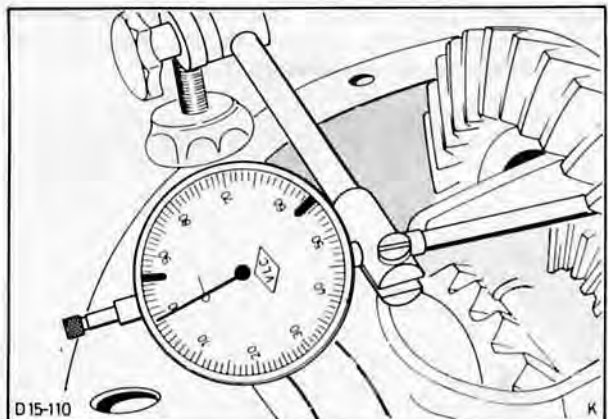

Fig. 89. Place dial indicator plunger on inner crown wheel boss
41. Now position dial indicator with plunger inside on crown wheel boss, Fig. 89. Set scale to '0'. Then fit spindle in the other axle tube and screw in with tightening torque of 5 Nm (0,5 mkp). Read off and note value shown on dial indicator (e.g. 0,64 mm).